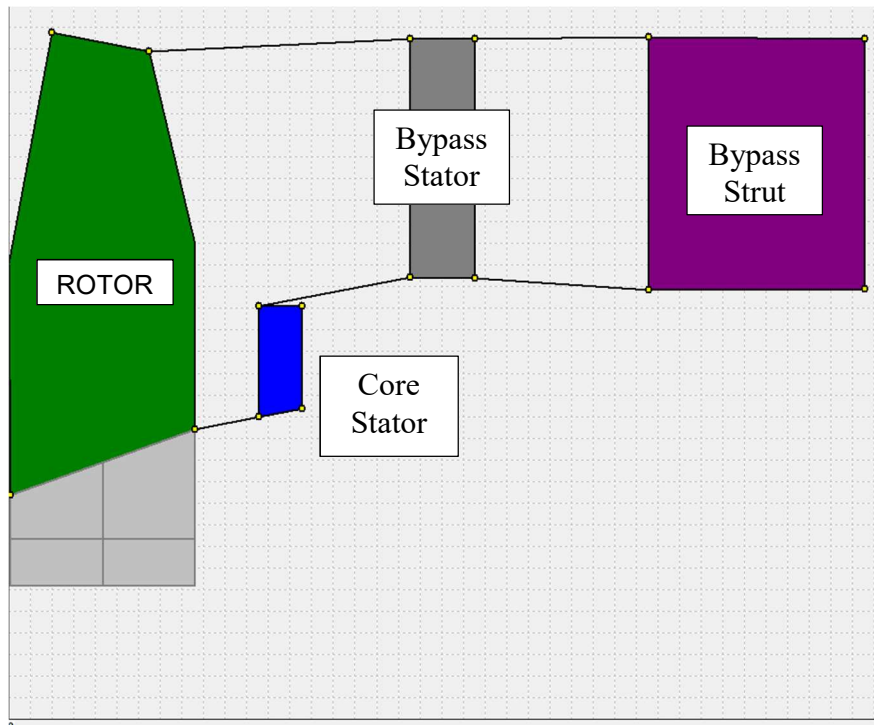

Figure 1: Turbofan stage target layout
- create the 1D mean-line model of the Fan stage with the configuration as shown in Figure 1 and listed below: